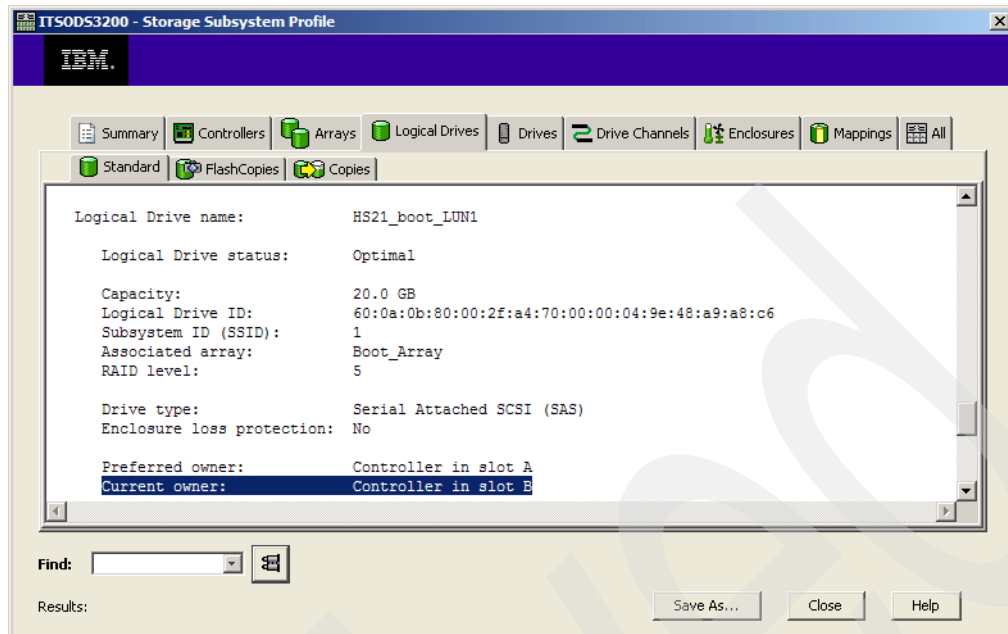

Figure 20-49 Boot volume owner - Controller B
3. After the cable is unplugged, the Windows 2008 operating system will pause until the boot volume is failed over to the backup path, in our example, Controller B, as shown in Figure 20-49 on page 479.